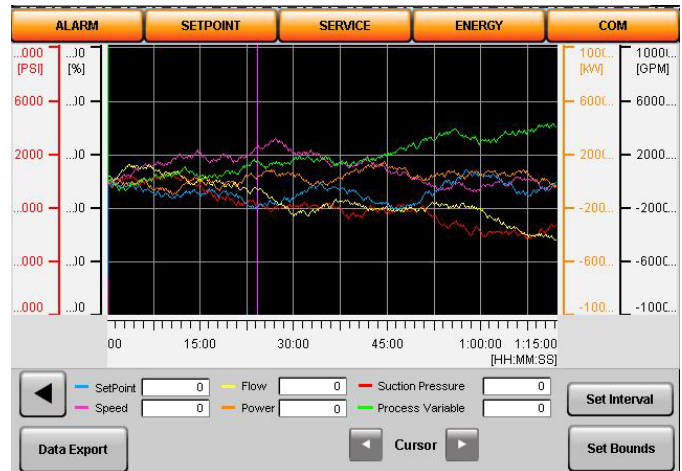

Fig 5.2.13-Trends Screen and Real Time Curve Navigation
- Trend Screen and Real Time Curve Navigation button – Tapping on the Trends button  will display the trend of parameters such as Pressure, Power, Setpoint, Speed and Flow Set Time Interval. Individual Parameters, Minimum and Maximum Boundaries can be set. See **Section 5.9>Trends Screen and Real Time Curve Navigation** for complete details. See **Figure 5.2.13**: